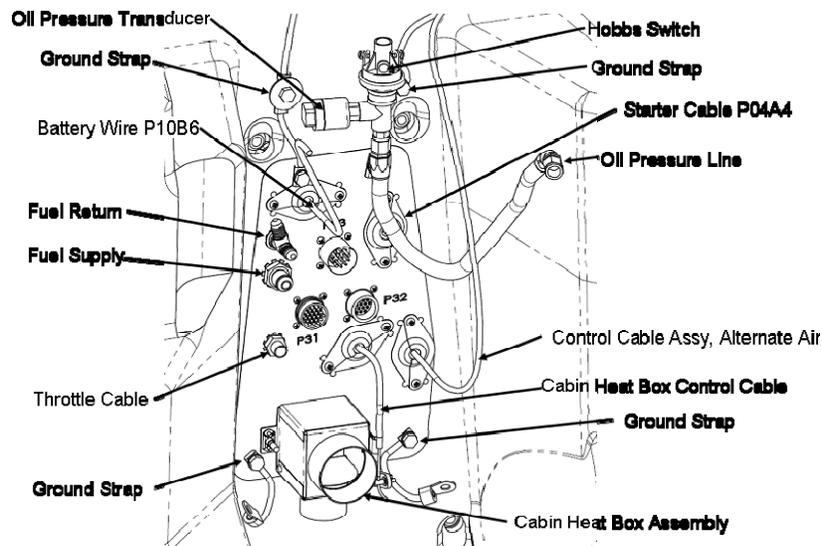

Figure 71-30 Tunnel Firewall Assembly Disconnects - Engine
5. Disconnect the following from the Tunnel Firewall Assembly engine side as shown in Figure 71-30.